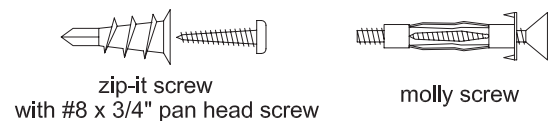

FIGURE 2A
Hold z-bar (E) up to the wall at the location you made the horizontal line. Line up the center of the holes in the z-bar with line. Mark your hole centers that you will be fastening through. See Figure 2A